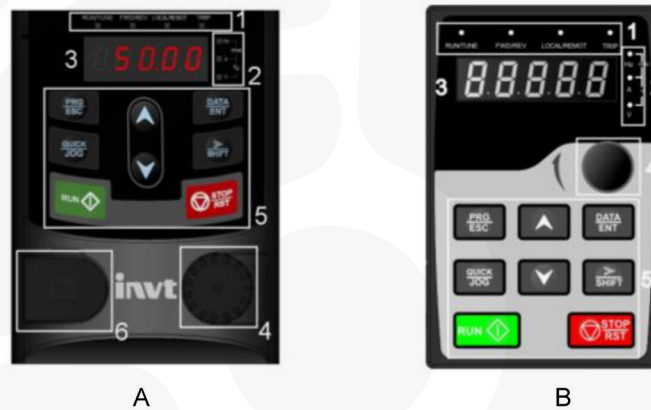

Figure 5-1 Keypad
- A in Figure 5-1 shows the keypad of the 0R7G–015G/018P models and B in Figure 5-1 shows that of the 018G/022P–500G models.